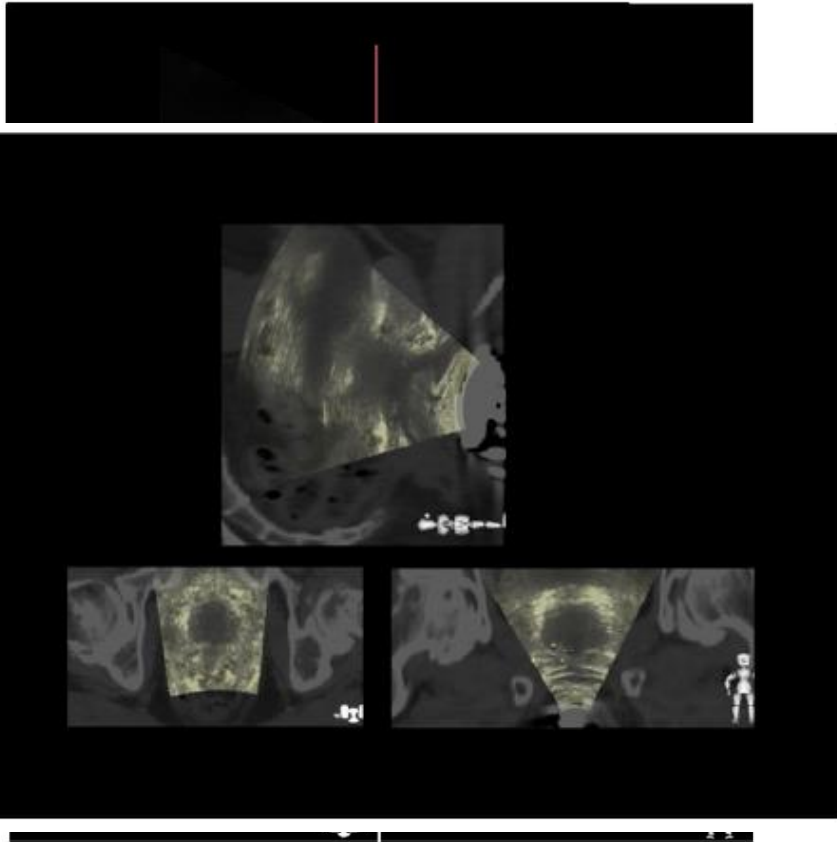

Figure 1 Sagittal (top), axial (bottom left), and coronal (bottom right) transperineal ultrasound images of the prostate.
Fig. 1. (A) Drift motion. (B) Transient motion. (C) Drift and transient motion. The track shown in (C) shows an incident when therapists intervened and corrected couch position in response to observed motion (at time, 560 s). For data analysis purposes, these couch corrections were retrospectively eliminated by reintroducing the offset that had been corrected by therapists.